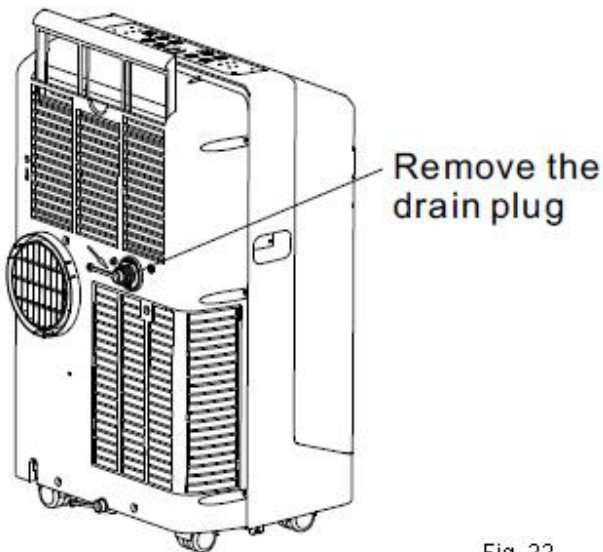

Fig. 22
- 4) Place the open end of the drain hose directly over the drain area in your basement floor. Refer to Fig. 22 & 23.
- Remove the rubber plug on the back of the unit and attach a hose to the drain outlet (See Fig.22 & 23).